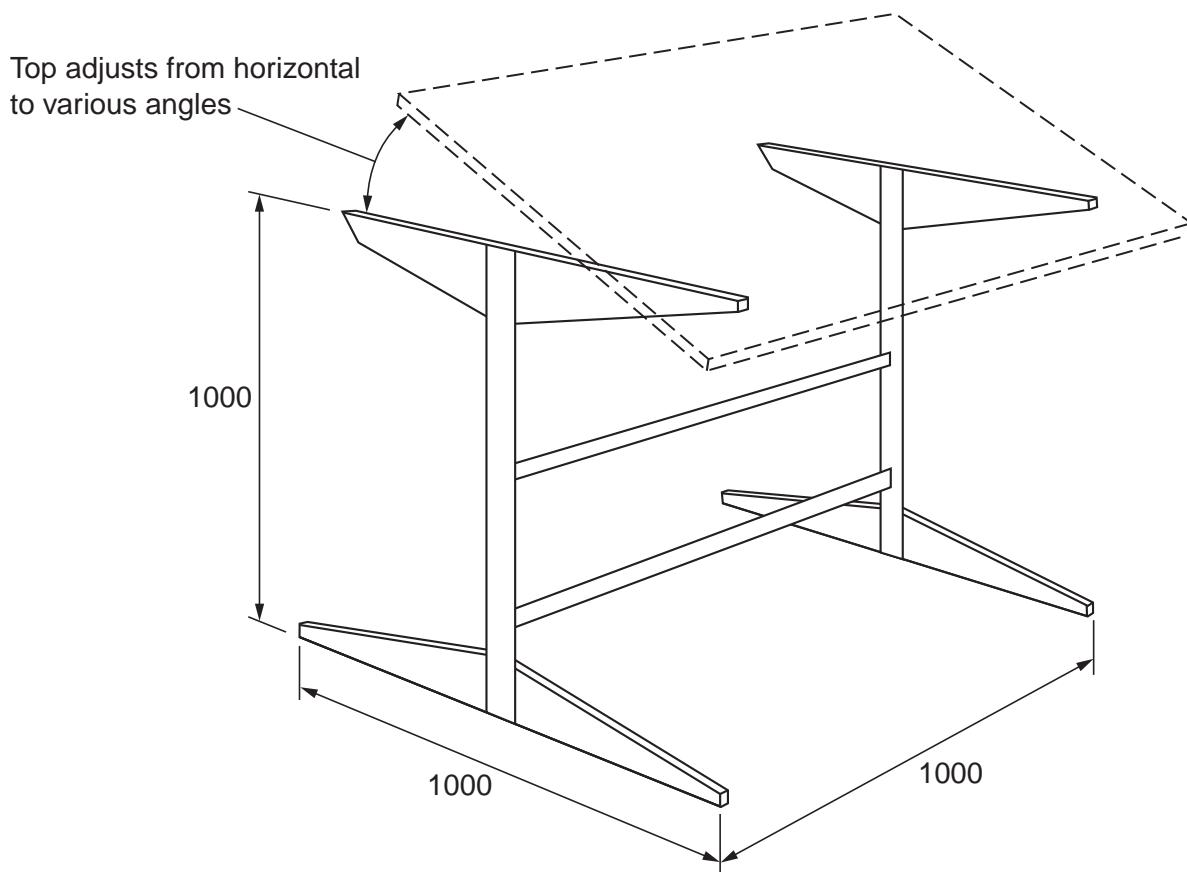

Fig. 8
- 7** Fig. 8 shows an incomplete idea for a drawing desk.